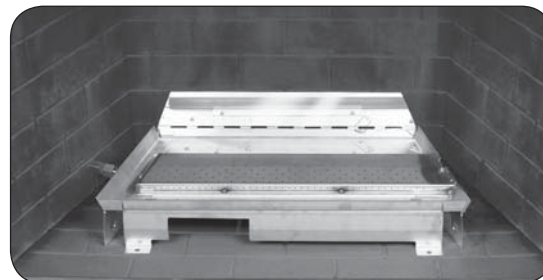

Fig. 6-2 Orientation
3. Place the burner system in the fireplace. Center the burner in the fireplace. (Reference Fig. 6-2 for orientation.)